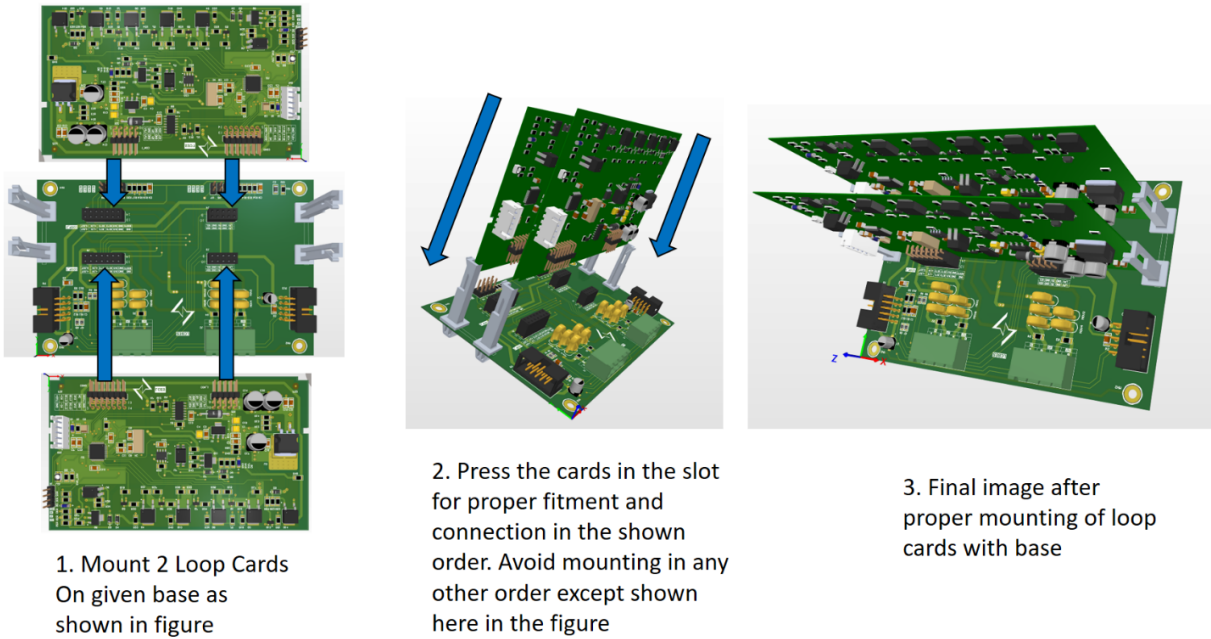

Figure 3.42: Loop Card to Loop Card Base Board Interfacing
- 2. For the 6/12 Loop system, users need to see figures 3.42 & 3.43 for their battery fitting position.